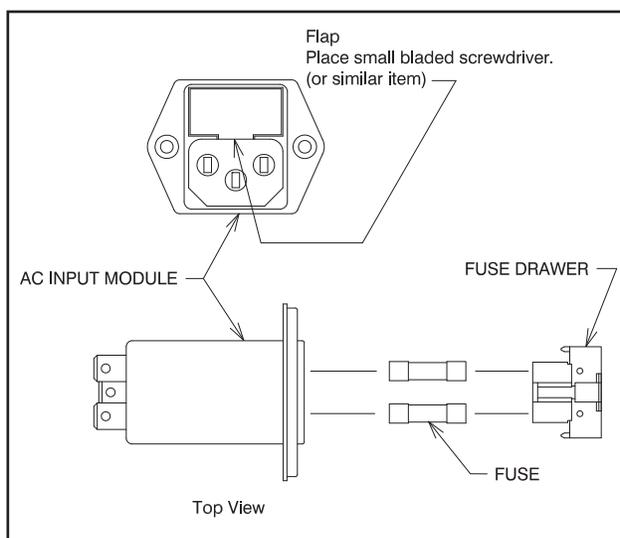

FIGURE 7
4. Remove and examine the fuses. Replace as necessary. See Figure 7